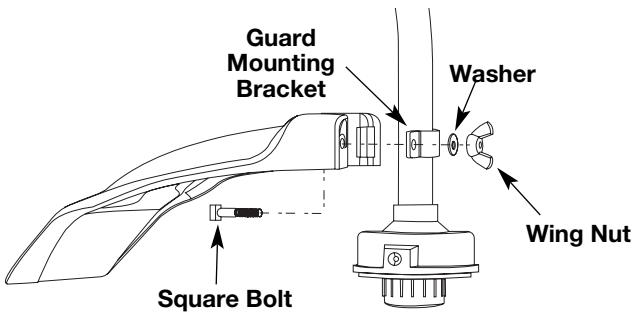

Fig. 3
- From inside the cutting attachment shield, push the square bolt through the hole until the threaded end protrudes through the guard mounting bracket (Fig. 3).